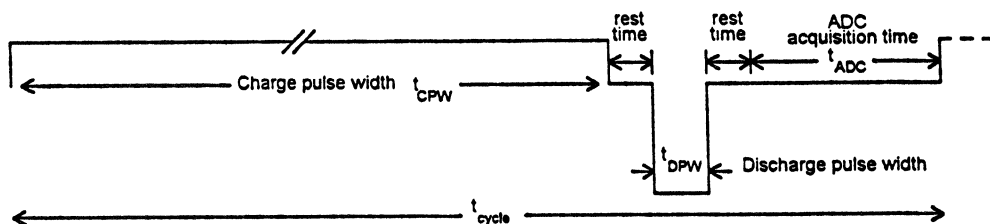

Figure 4.
Another component of fast charging sealed consumer cell NiCd batteries is to provide a current source. In the first tests that ICS performed we compared *constant current* with *reverse polarity pulsing current*. There is also *positive pulsing current* that can be used to charge batteries. In Figure 4 the various components of each of these three applications of current are presented.
ICS uses a specific *reverse polarity pulsing current* pattern that is represented from start to finish in the one(1) second segment shown in Figure 4. This pattern is based primarily on the Christie Electric reFLEX® principle put forth by Fred Benjamin in a paper entitled "THE reFLEX PRINCIPLE OF CHARGING NICKEL-CADMIUM AND OTHER BATTERIES"⁴ circa 1976. (ICS is the exclusive licensee of Christie patent 4,746,852 for incorporation into integrated circuit devices.) The pulse pattern is composed of three main elements: a forward bias current, a high current reverse bias discharge, and a rest period. This pattern is repeated throughout the charging sequence, with battery voltage measurements taken once every second, within the rest period.